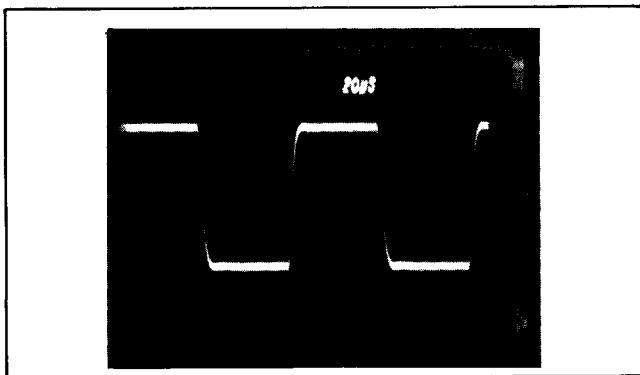
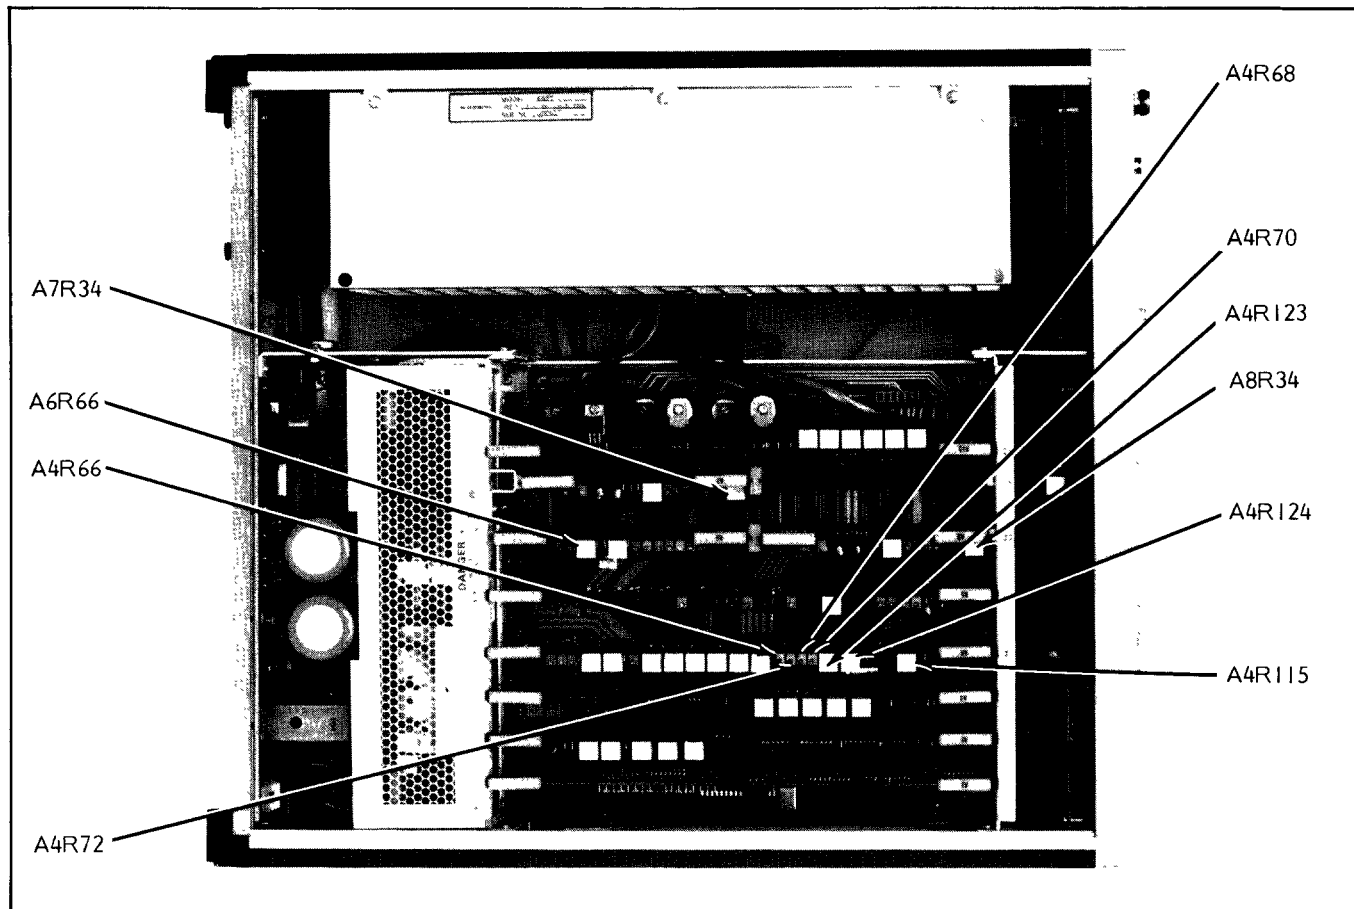

Figure 5-38. ALC Loop Square Wave
Figure 5-39. ALC Loop Adjustments
8. Adjust the oscilloscope vertical and horizontal controls to display a square wave similar to that shown in Figure 5-38.
9. Alternately adjust A4R123 and A6R66 (Figure 5-39) for the best square-wave response. The square wave should resemble Figure 5-38.
5. Adjust A4R115 (Figure 5-39) for equal power at both 2.050 GHz and the high-end frequency.
3. Adjust A4R66 (Figure 5-39) for 10 dBm, as indicated on the power meter.